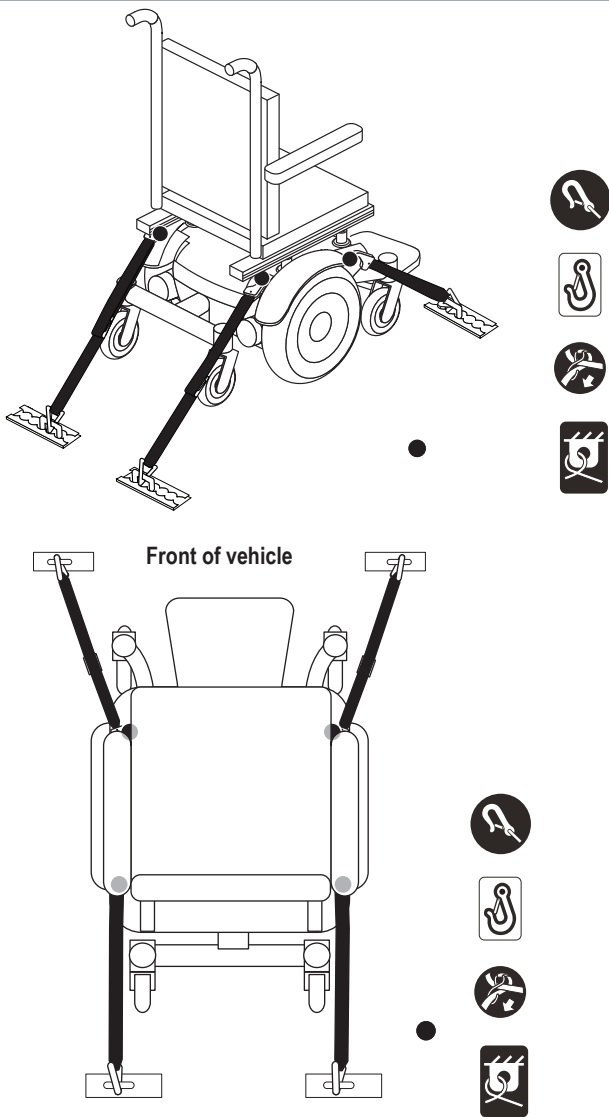

Figure 6. Unoccupied Transit System Securement Points
If your power chair is equipped with a transit securement system, it is equipped with manufacturer installed front and rear securement brackets and may be equipped with positioning belt anchoring brackets. **See figure 6.** Refer to the supplement provided with your power chair for information on how to use the transit securement system.
- Position the anchor points for the rear tie-down straps directly behind the rear securement points on the power chair. The front tie-down straps should be anchored to floor points that are spaced wider than the power chair to provide increased stability. **See figure 6.**